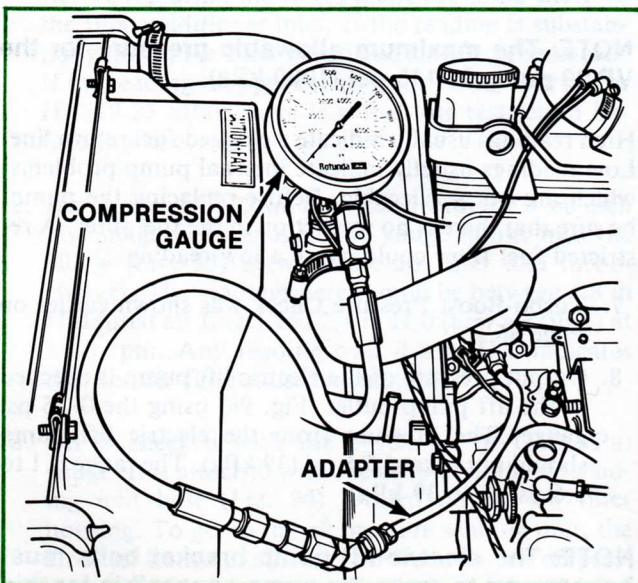

Figure 99. Compression Gauge and Adapter
2. Stop the engine and remove all six glow plugs. Install the 2.4L adapter (part number 019-00020) and the compression tester (19-00001 or equivalent) on the cylinder to be checked (Fig. 99). Use the right adapter, so that thread damage does not occur.